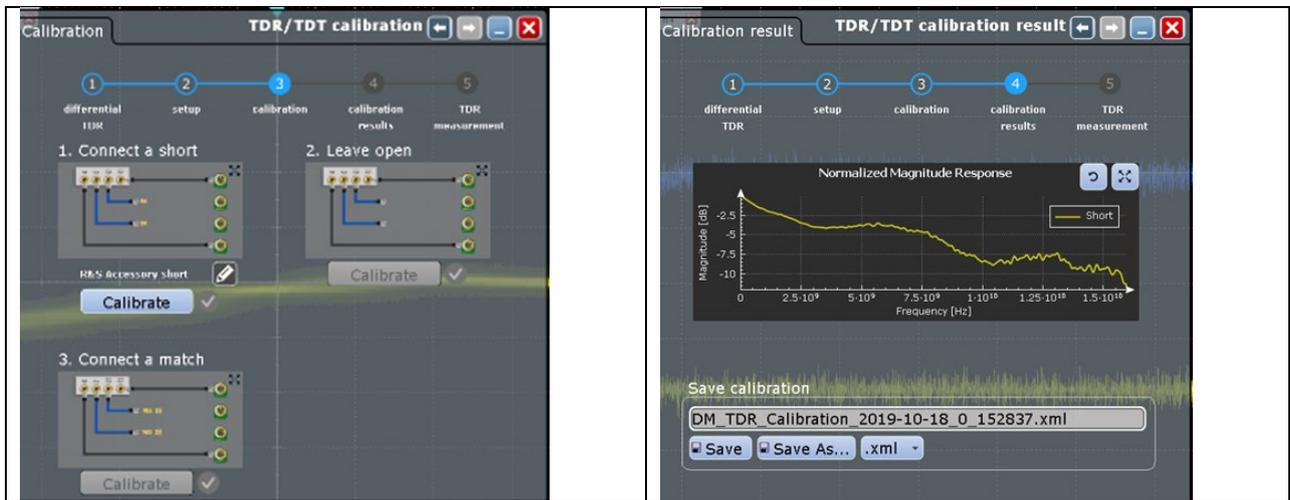

Figure 6: In this example, a software wizard guided the calibration process (left) and saved results such as the frequency-dependent loss curve (right).
Step 1, Calibrate: The first step is to choose the necessary configuration: TDR or TDT; single-ended or differential. As a common example, let's look at differential TDR. The calibration process requires three measurements: *short*, *open*, and *match* (with termination; Figure 6). For each, the measurement sequence is to (1) transmit a known reference from the initial launch point, (2) measure the reflection and (3) back-calculate the variance.